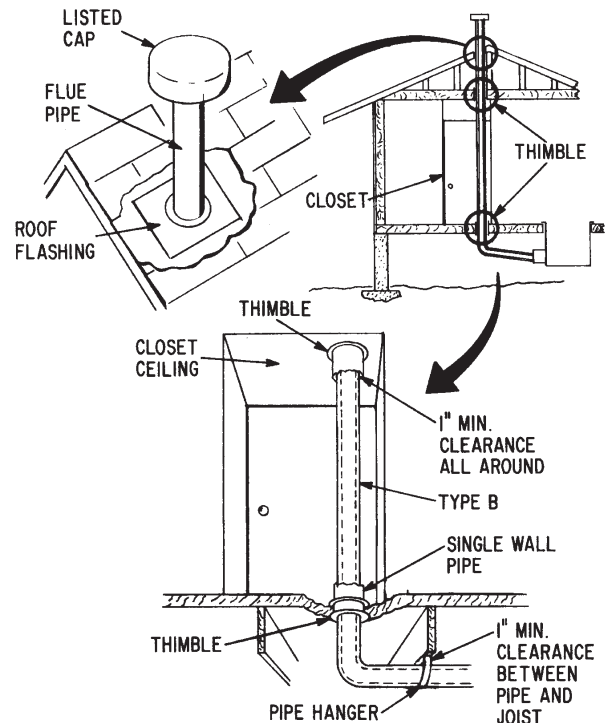

Figure 9
3. If you have decided to go up to the roof through a closet, remember that you **MUST** keep a minimum distance of 1 inch between Type B vent pipe and any combustible material. **See Figure 9.** Run it through a single wall pipe that is 2 inches larger in diameter than the flue pipe. Use thimbles when going through floor and ceiling and flashing when going through roof.